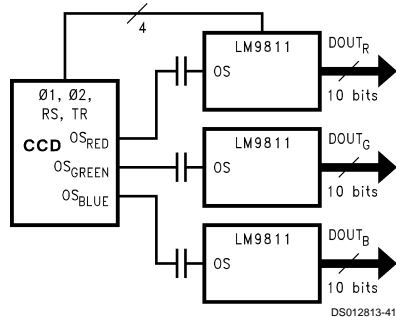

FIGURE 33. Parallel Output CCD, Three LM9811
*Figure 33* uses three LM9811s to achieve a 4.5 Mpixel/sec (1.5M RGB pixels/sec) pixel rate. The three LM9811s are synchronized by applying the same MCLK and SYNC signals to all three devices. One LM9811 provides the clock signals required for the CCD. Since the coefficient data for all three LM9811s will be latched simultaneously on the rising edge of CCLK, the correction coefficient bus must either be at least 24 bits wide (8 correction coefficient bits by 3 LM9811s) or run at a 4.5MHz rate and be latched into a buffer between the correction coefficient databus and each LM9811. Similarly, the output data for all three LM9811s will be available simultaneously at the 3 output databusses. Since each LM9811 is dedicated to one color, the VGA gain does not change during line scan.